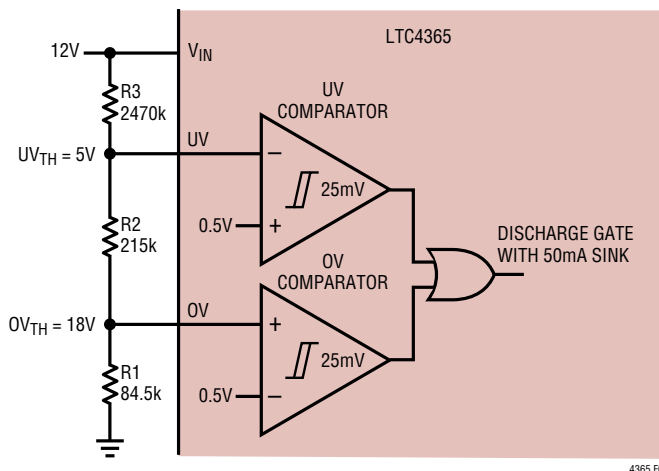

Figure 4. UV, OV Comparators Monitor $12V$ Supply
The LTC4365 provides two accurate comparators to monitor for overvoltage (OV) and undervoltage (UV) conditions at V_{IN} . If the input supply rises above the user adjustable OV threshold, the gate of the external MOSFET is quickly turned off, thus disconnecting the load from the input. Similarly, if the input supply falls below the user adjustable UV threshold, the gate of the external MOSFET also is quickly turned off. Figure 4 shows a UV/OV application for an input supply of $12V$.
The external resistive divider allows the user to select an input supply range that is compatible with the load at V_{OUT} . Furthermore, the UV and OV inputs have very low leakage currents (typically $< 1nA$ at $100^\circ C$), allowing for large values in the external resistive divider. In the application of Figure 4, the load is connected to the supply only if V_{IN} lies between $5V$ and $18V$. In the event that V_{IN} goes above $18V$ or below $5V$, the gate of the external N-channel MOSFET is immediately discharged with a $50mA$ current sink, thus isolating the load from the supply.
The following 3-step procedure helps select the resistor values for the resistive divider of Figure 4. This procedure minimizes UV and OV offset errors caused by leakage currents at the respective pins.
The example of Figure 4 uses standard 1% resistor values. The following parameters were selected: